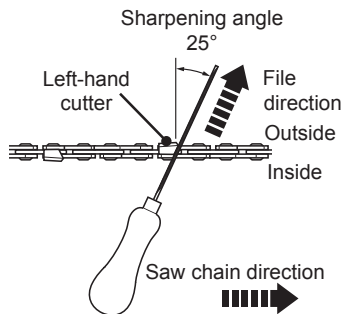

Fig. 48
5. File at an angle perpendicular to the bar, and at an angle of  $25^\circ$  to the direction of travel (Fig. 48).